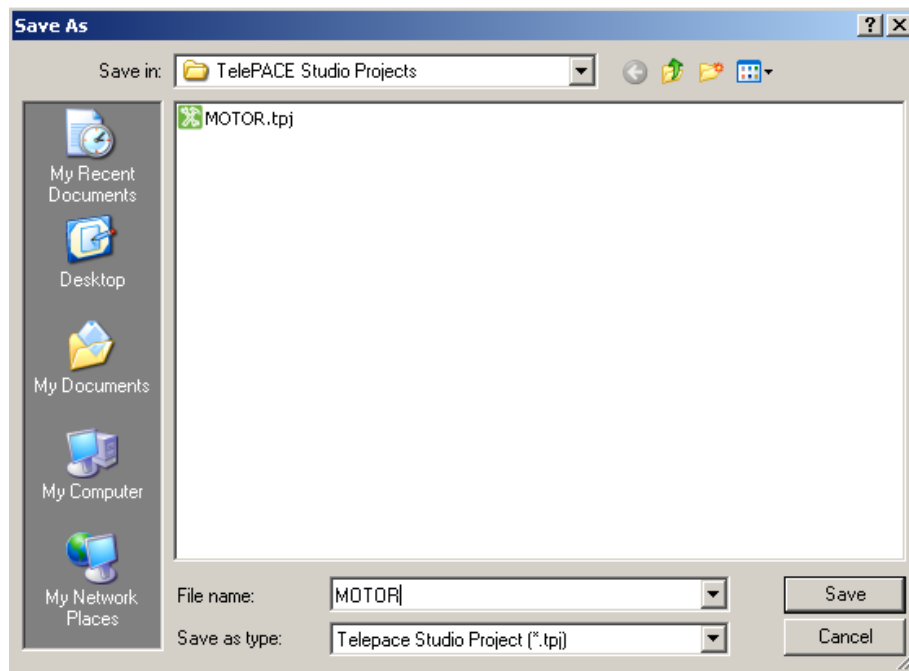

Figure 15: Save As File Dialog
- Click the **Application Button** and select **Save** from the menu. The standard Windows Save File dialog will be displayed (Figure 15) appears because the file has no name. Type a filename within the File Name field and click **Save**. If the file already has a name, it is saved and no dialog appears or you may click the **Save Icon** that looks like a floppy disk (**Ctrl+S** is also supported).